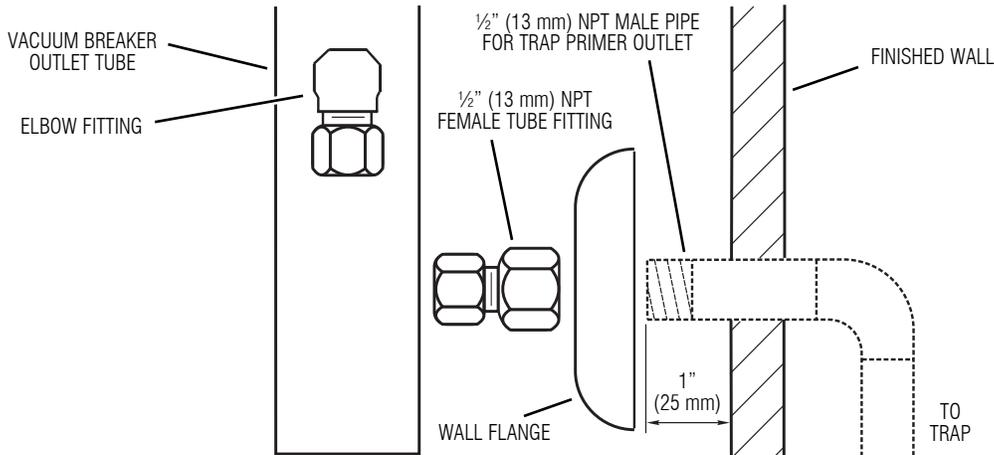

Figure 2
Step 2 — Install Wall Flange (Figure 2)